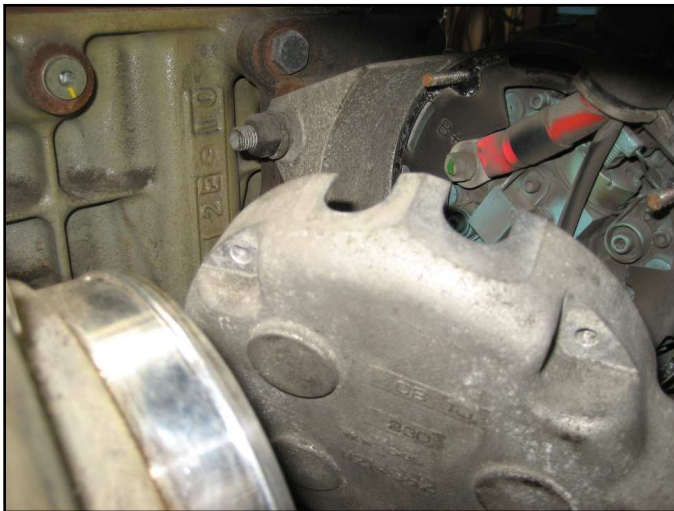

Figure 5
- 8) Remove the protective cover of both alternators (Figure 5 shows protective cover of upper alternator).